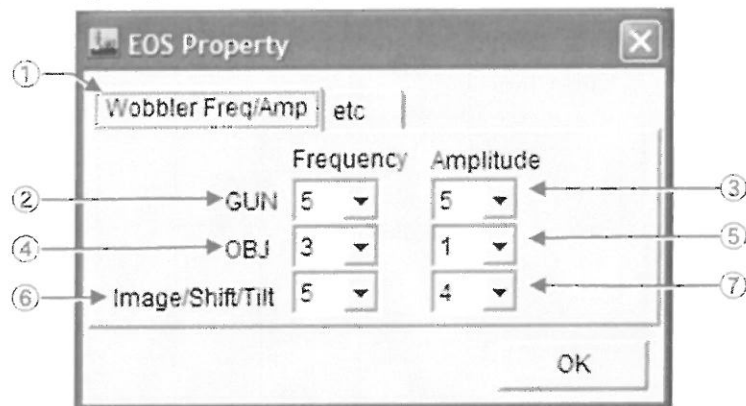
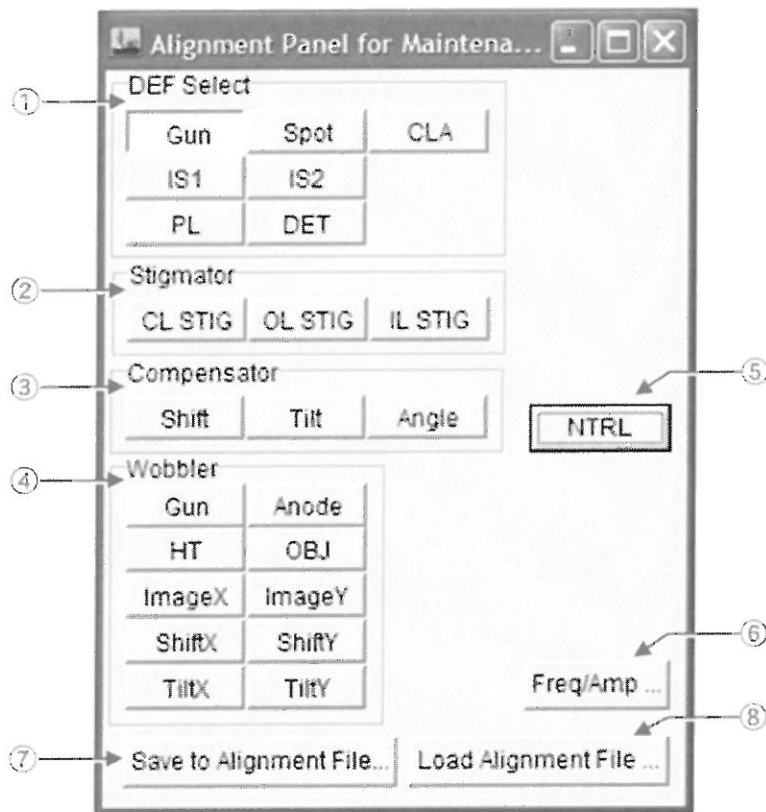

Fig. 4.56 EOS Property (Wobbler Freq/Amp) window
Fig. 4.61 Alignment Panel for Maintenance window
This is displayed when Property in the menu bar (Fig. 4.20-①) is selected, or by pressing the shortcut switch button in the TEM Controller window (Fig. 4.20-②) (Fig. 4.56). Also, the window opens when you click on either **Freq/Amp...** in the Wobbler window (Fig. 4.34⑤) or **Freq/Amp...** in the Alignment Panel for Maintenance window (Fig. 4.61⑥).
This is used to assign functions to the SHIFT knob of the control panel and the DEF/STIG knobs, and select the deflection system, and to turn the wobbler ON and OFF as required for optical axis alignment. This window opens when you click on Alignment in the Maintenance menu in the TEM Controller menu bar (Fig. 4.20-①) (Fig. 4.61).